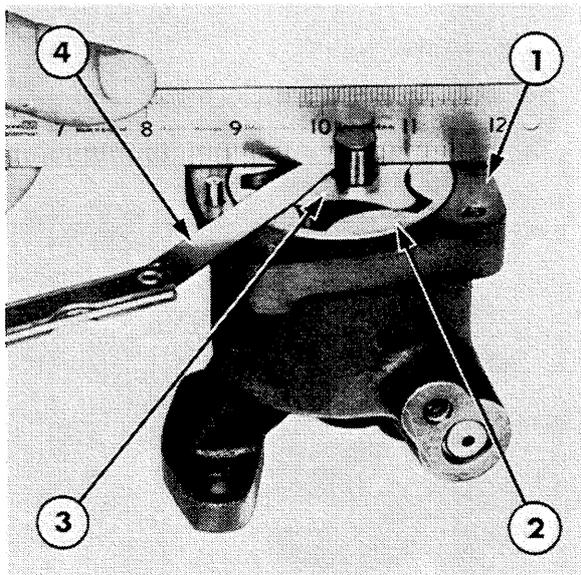

Figure 30
3. Use a straight edge and feeler gauges to measure the endplay between the inner rotor and the pump body and measure the clearance between the outer rotor and the pump body, Figure 30.